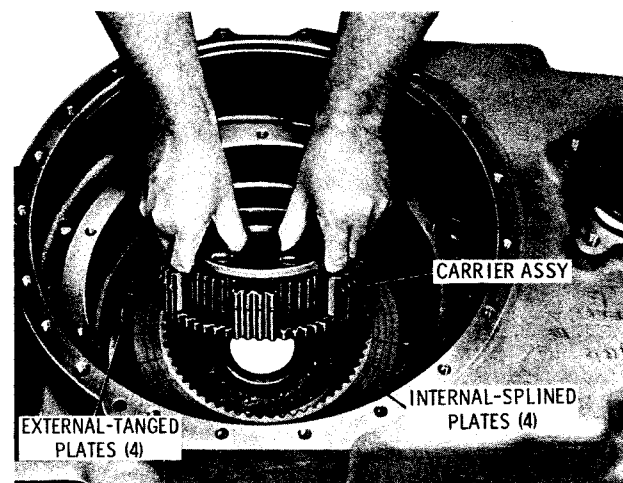

Fig. 7-13. Installing reverse-range planetary carrier assembly
(2) Beginning with an external-tanged clutch plate, alternately install four external-tanged clutch plates and four internal-splined clutch plates onto the reverse-range piston (fig. 7-13). Install the reverse-range planetary carrier assembly, long splines first, into the reverse-range plates stacked on the piston.